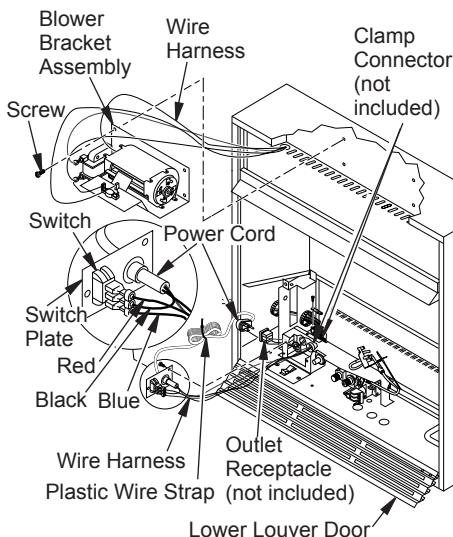

Figure 20 - Installing Blower Bracket Assembly
4. Plug power cord to the outlet receptacle (not provided) as shown in Figure 20. Wind the extra power cord and tie with plastic wire strap (see Figure 20). Set the power cord bundle between the burner bracket and outer casing, away from the burner.